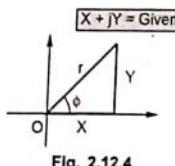

Fig. 2.12.4
- Let a phasor is represented in rectangular form  $X + j Y$ , as shown in the Fig. 2.12.4.
- From the Fig. 2.12.4,